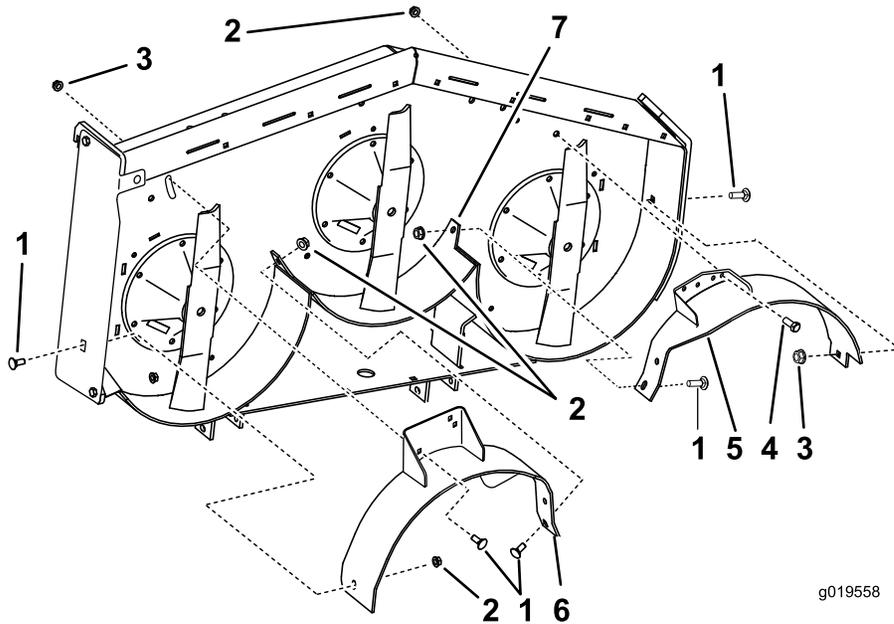

Figure 8
Note: Loosely install the baffles to align the baffles with all holes in the mower (Figure 8).
2. Loosely install the right baffle to the discharge plate with 1 carriage bolt (3/8 x 1 inch) and a small flange nut (3/8 inch) as shown in Figure 8.
3. Loosely install the right baffle to the top of the mower deck with 1 carriage bolt (3/8 x 1 inch) and 1 large flange nut (3/8 inch) as shown in Figure 8.
4. Loosely install the right baffle to the mower deck with 1 carriage bolt (3/8 x 1 inch) and 1 small flange nut (3/8 inch) as shown in Figure 8.
6. Loosely install the left baffle to the top of the mower deck with 1 bolt (3/8 x 1 inch) and 1 small flange nut (3/8 inch) as shown in Figure 8.
7. Loosely install the left baffle to the mower deck with 1 carriage bolt (3/8 x 1 inch) and 1 small flange nut (3/8 inch) as shown in Figure 8.
8. Loosely install the left baffle to the side of the mower deck with 1 carriage bolt (3/8 x 1 inch) and 1 large flange nut (3/8 inch) as shown in Figure 8.